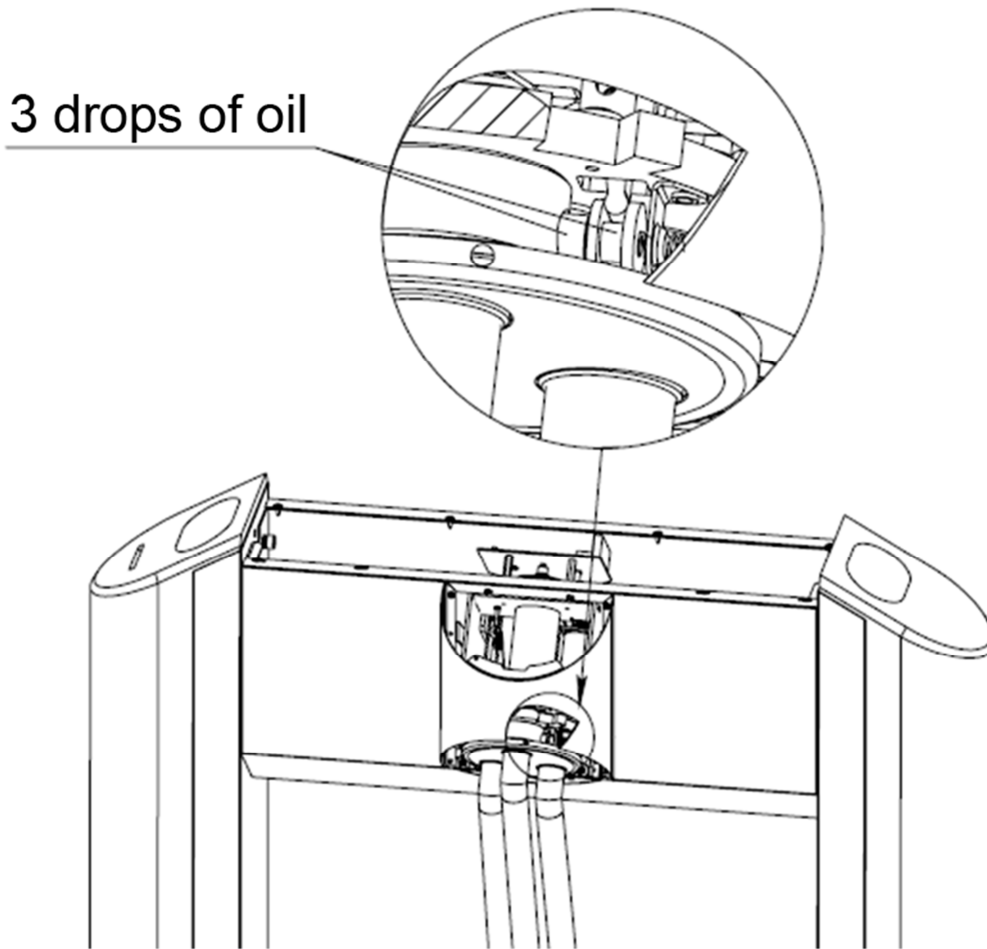

Fig. 13
5.5. The connection of lock pin and arms-unblocking cams (Fig. 13). The operation shall be done for each arm. Hole in Fig. 13 is shown in the conventional manner.